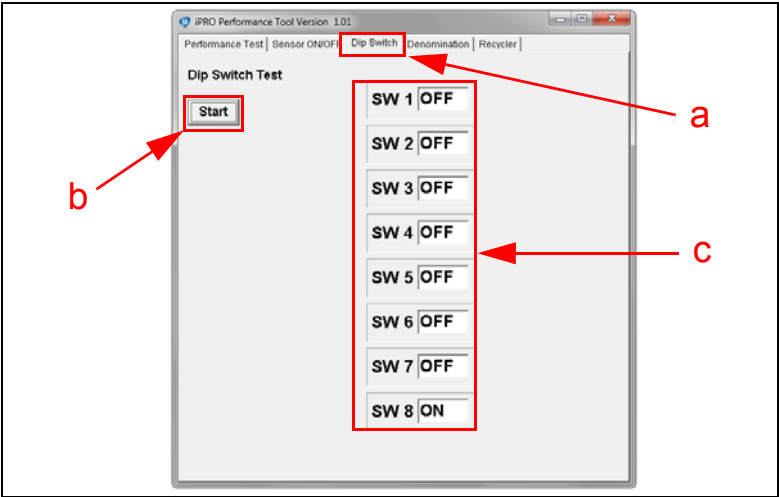

Figure 13 DIP Switch Tab Selection
3. Click the “Start” Screen Button (Figure 13 b) to begin the DIP Switch Test.